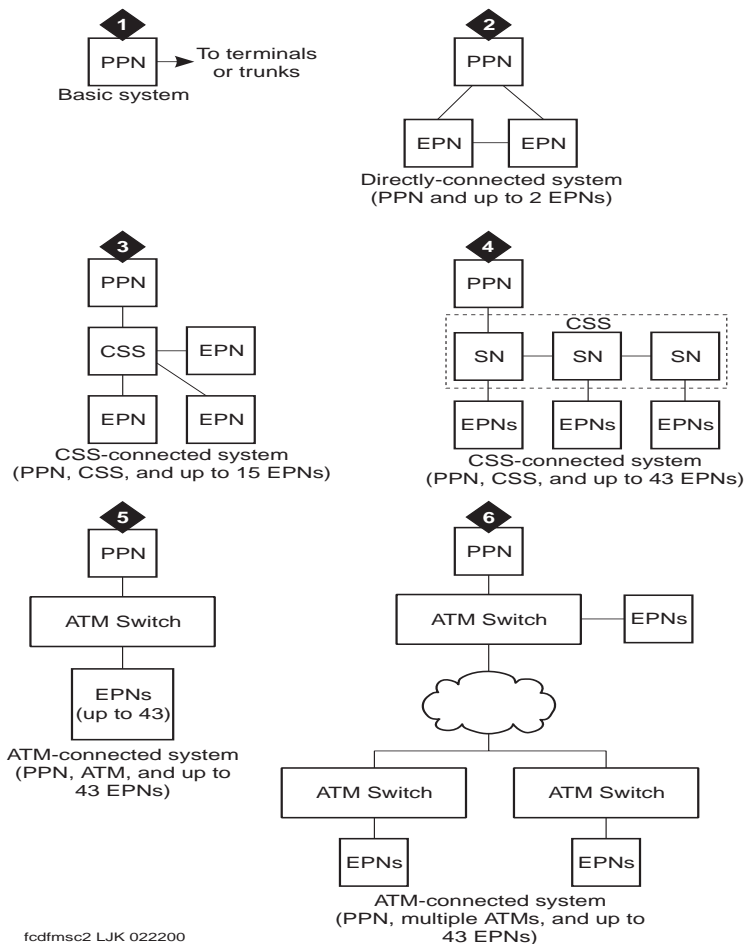

Figure 2. Main System Configurations
The basic system component is the Port Network (PN), consisting of port circuits connected to internal buses that allow the circuits to communicate with each other. See Figure 2.
Figure 2 shows the following 6 main system configurations: